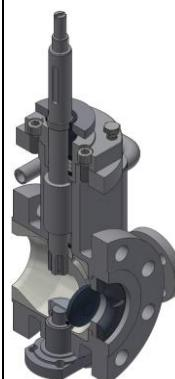

Fig. 8: 82.7-02 with
- Valve made of forged material with **protective sleeve** of hardened metal, tungsten carbide or ceramic (Fig. 8)